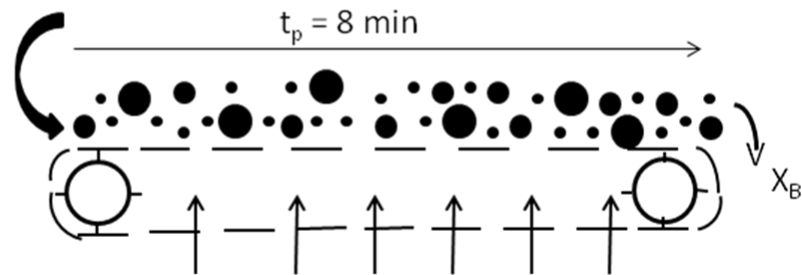

Fig. 1
5. A feed consisting of 30% of 50 μm radius particles, 40% of 100 μm radius particles, and 30% of 200 μm radius particles is to be fed continuously in a thin layer onto a moving grate crosscurrent to a flow of reactant gas (Fig. 1). For the planned operating conditions the time required for complete conversion is 5, 10, and 20 minutes for the three sizes of particles. Find the conversion of solids on the grate for a residence time of 8 minute in the reactor.